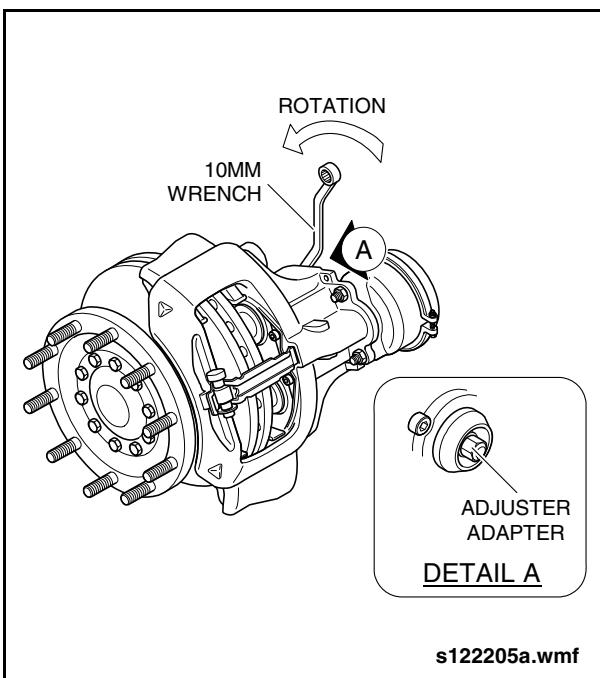

Fig. 2-111: Checking Adjuster Movement
- As a visual aid, position a wrench or socket onto the adjuster (including Adapter. Apply the brake 5 to 10 times (approximately 30 psi (2 bar)), the wrench or socket should turn clockwise (viewed from actuator side) in small increments if the adapter is functioning correctly. See "Fig. 2-111: Checking Adjuster Movement" on page 101.